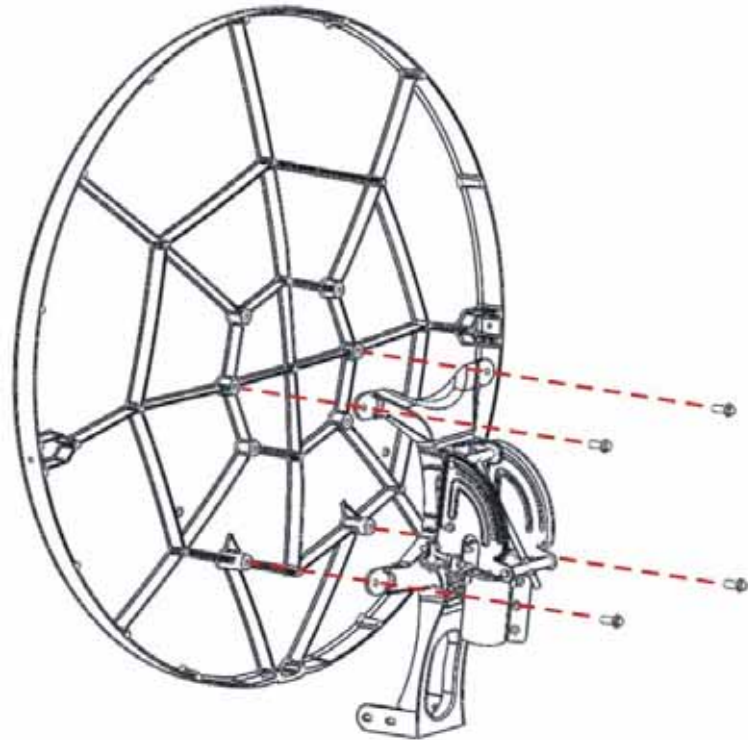

Figure 14: Attaching the antenna reflector
2. Align the mounting holes in the reflector with the holes in the reflector bracket as shown in Figure 14.